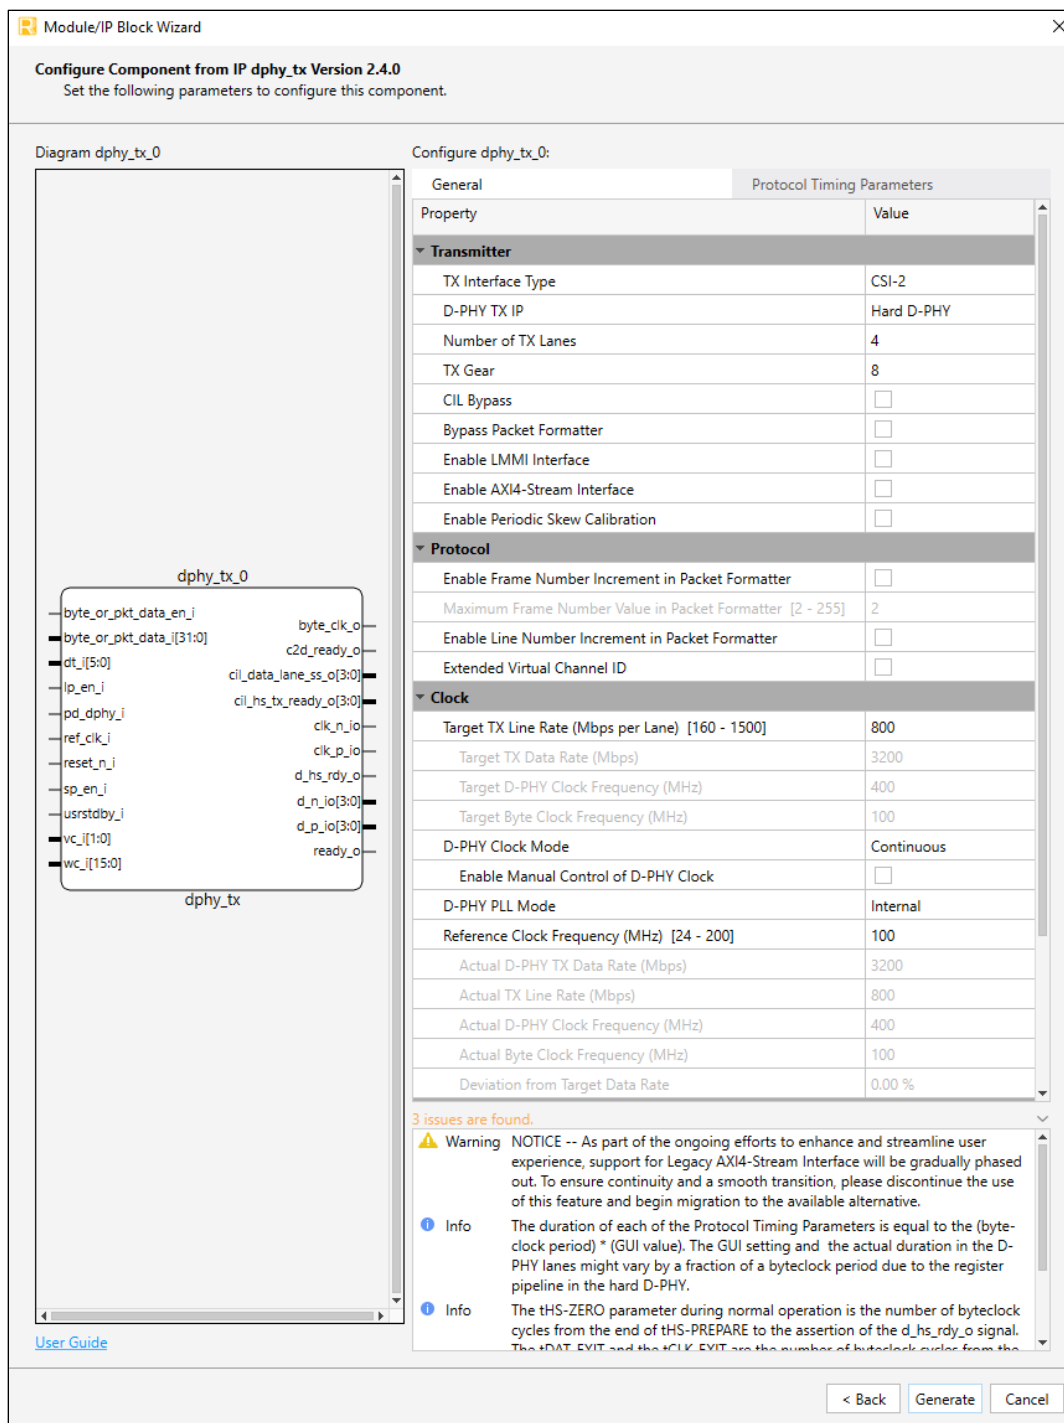

Figure 7.2. IP Configuration
3. In the next **Module/IP Block Wizard** window, customize the selected **CSI-2/DSI D-PHY Transmitter IP** using drop-down lists and check boxes. Figure 7.2 shows an example configuration of the CSI-2/DSI D-PHY Transmitter IP. For details on the configuration options, refer to the IP Parameter Description section.